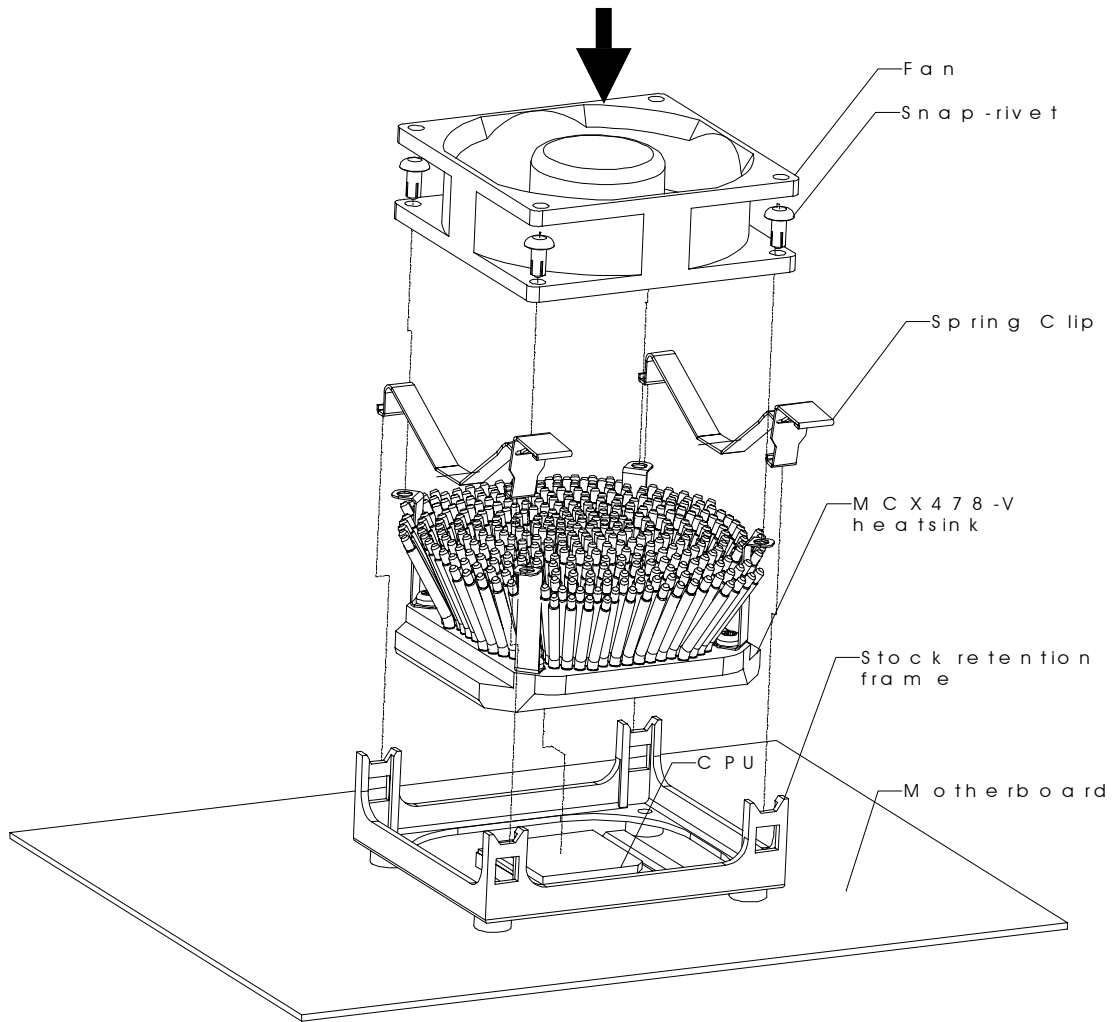

Figure 1
4. Position the heatsink inside the retention frame as shown figure 1. Engage the end of each spring clip into the holes of the retention frame posts. **While holding down the opposite side of the heatsink to prevent it from tilting**, push down on the first spring clip's thumb bracket to engage the other end. Then do the same with the second clip. The heatsink is now securely attached to the retention frame. Verify that the spring clips are sitting flat on the heatsink steps, and that the edge of the clip is adjacent to the edge of the heatsink. Please note for installation of the heatsink with a 92mm fan.
Place the fan atop the heatsink, and use the provided snap rivets to secure it to the fan brackets, as shown figure 1.